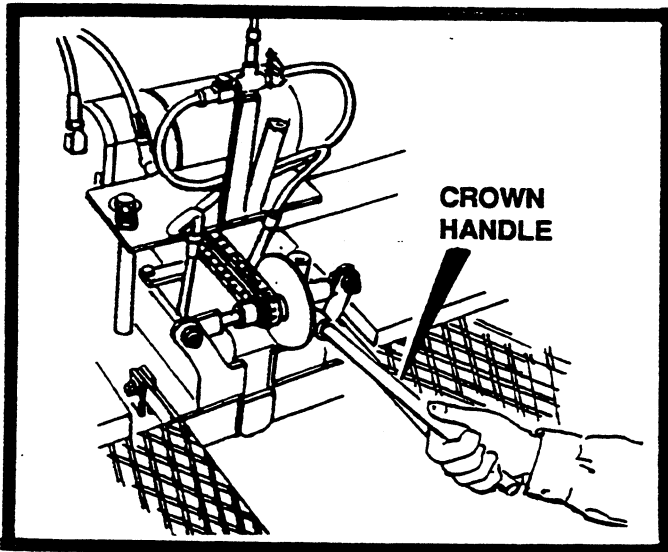

FIGURE 27
- B. Remove crown handle from holder and insert it into opening on control as shown in Figure 27.